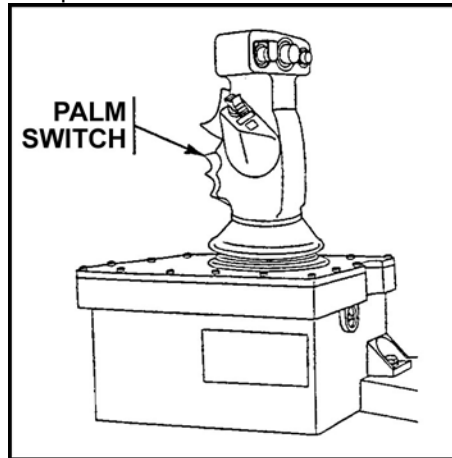

Figure 8. Commander's hand station.
- (1) Move the CIV UNSTOW/STOW switch on the commander's sight control panel (CSCP) to the UNSTOW position.
- (2) Squeeze and hold the palm switch on the commander's hand station (CHS) (Figure 8).